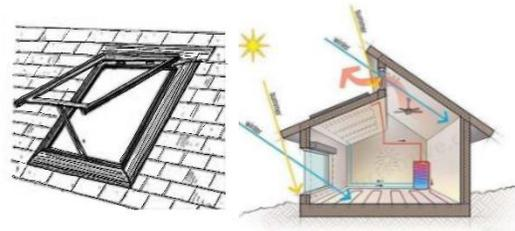

Fig. 26: Skylights and clerestory windows
d) **Skylights or clerestory windows** (Fig. 26) can be used to increase ventilation through the air buoyancy effect.